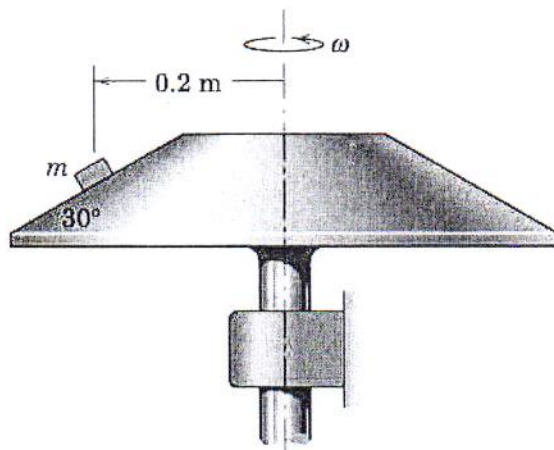

Fig. Q7
7. The small object of mass m is placed on the rotating conical surface at the radius shown in Fig. Q7. If the coefficient of static friction between the object and the rotating surface is 0.8, calculate the maximum angular velocity ω of the cone about the vertical axis for which the object will not slip. Assume very gradual angular velocity changes.